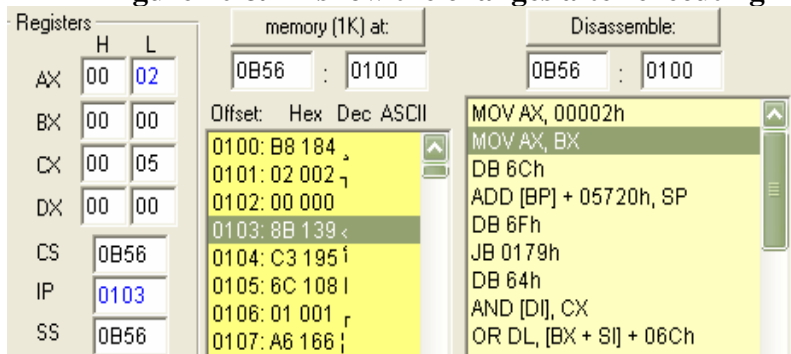

Figure 20
- Figure 20 & 21 show the changes after executing MOV AX, 2